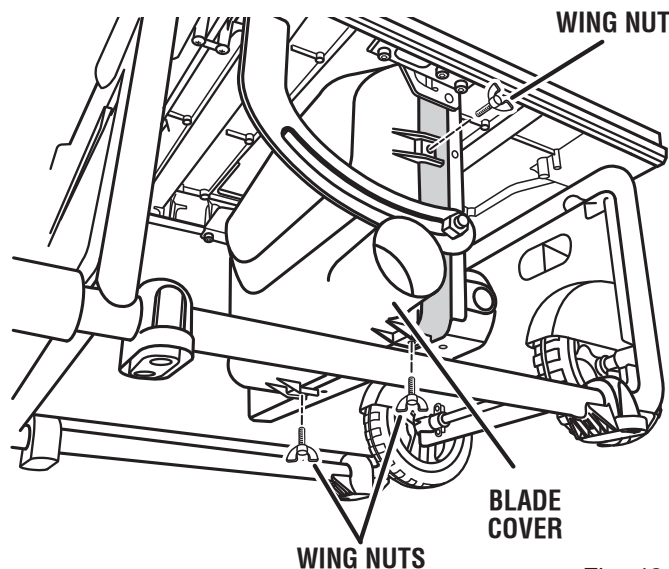

Fig. 49
- Unscrew wing nuts and open the blade cover. Clean saw dust and wood chips from the blade cover. Close and secure. (See figure 49.)